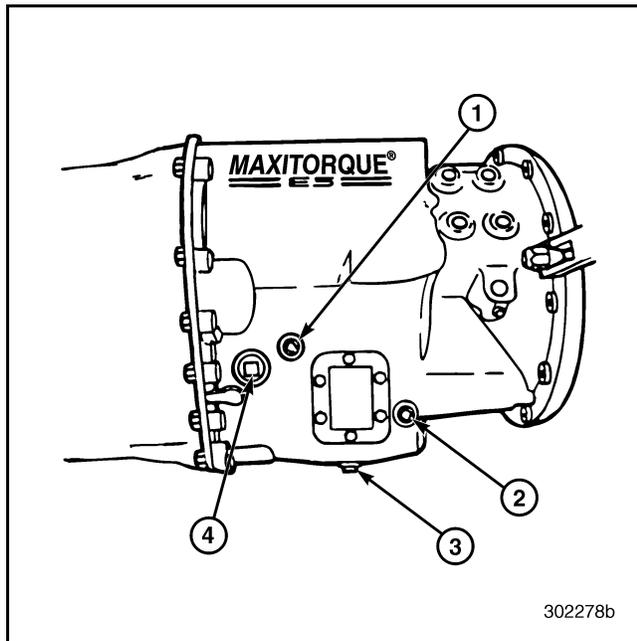

Figure 58 — Plug Locations
- Remove the magnetic drain plug (Figure 58) from the bottom of the transmission main case and drain the hot oil into an industry-approved recovery container.